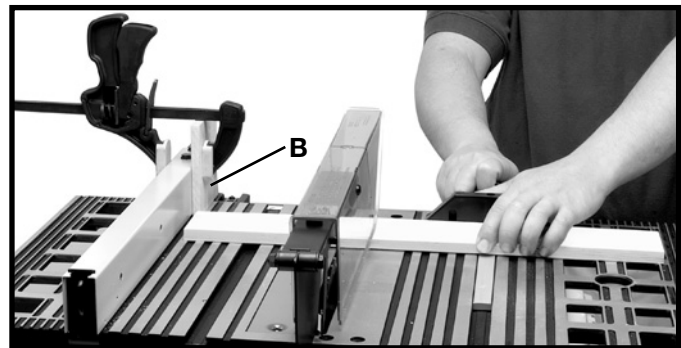

Fig. 39B
When cross-cutting a number of pieces to the same length, a block of wood (B) Fig. 39B can be clamped to the fence and used as a cut-off gage as shown in Fig. 39B. It is important that this block of wood always be positioned in front of the saw blade as shown. Once the cut-off length is determined, secure the fence and use the miter gage to feed the work into the cut. This block of wood allows the cut-off piece to move freely along the table surface without binding between the fence and the saw blade, thereby lessening the possibility of kickback and injury to the operator.
⚠ CAUTION WHEN USING THE BLOCK (B) FIG. 39B, AS A CUT-OFF GAGE, IT IS VERY IMPORTANT THAT THE REAR END OF THE BLOCK BE POSITIONED SO THE WORK PIECE IS CLEAR OF THE BLOCK BEFORE IT CONTACTS THE BLADE.